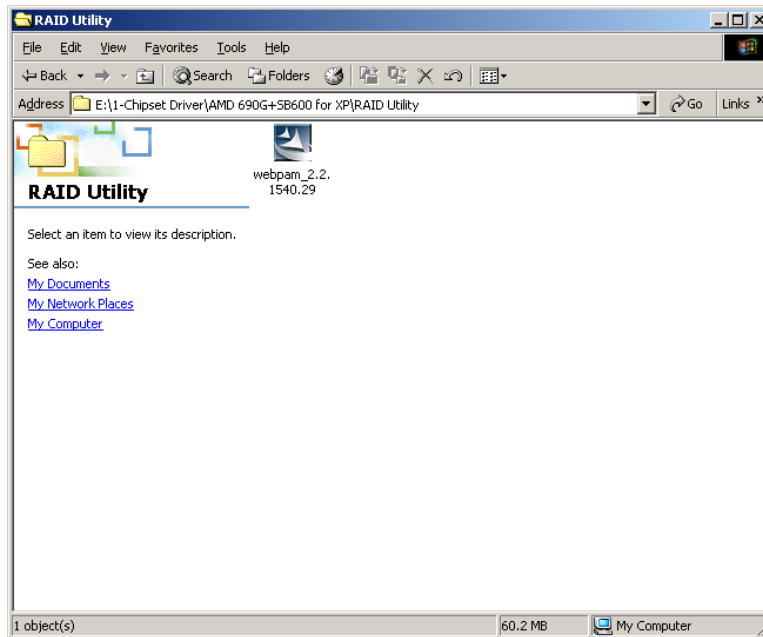

Figure 7-29: RAID Utility Icon
Step 6: A new window opens (Figure 7-29).
Step 7: Double-click the Icon Figure 7-29.